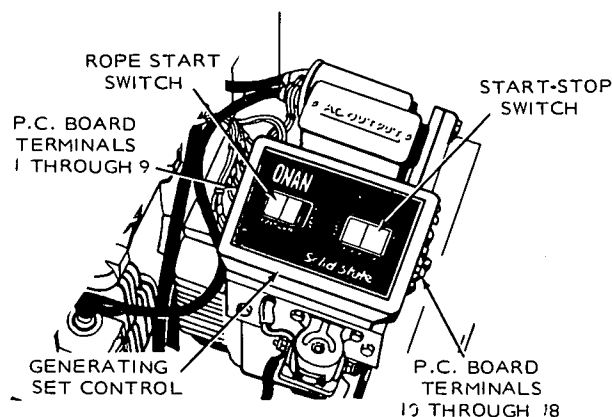
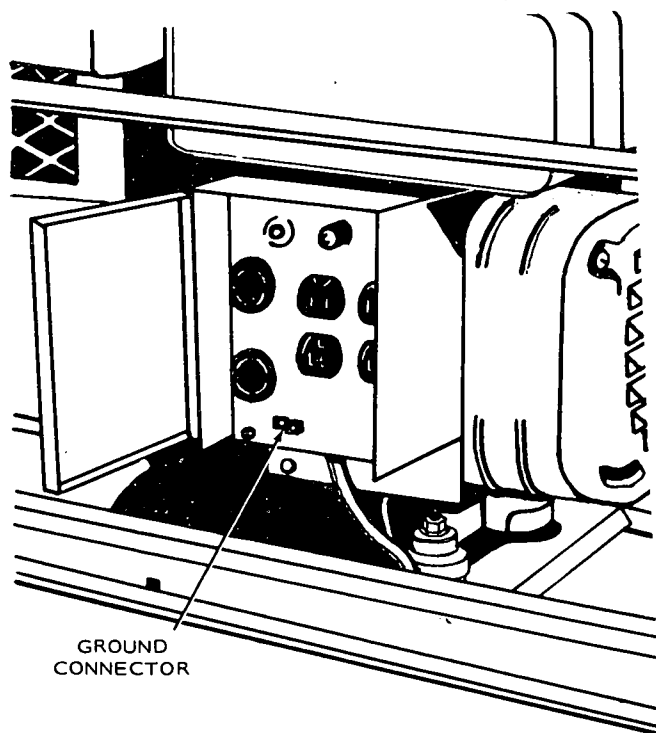

FIGURE 10. GENERATOR SET CONTROL ASSEMBLY
FIGURE 14. GROUND CONNECTOR ON CONTRACTOR AND PORTABLE MODELS
The NH electric generating sets beginning with Spec D have a solid state control system located on top of the generator (Figure 10) for starting, stopping, battery charging, and low oil pressure shutdown.
2. the solderless connector located on the generator (Figure 10) or on the receptacle box for the contractor and portable models (Figure 14).